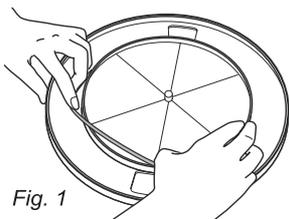

Fig. 1
1. Place the rubber driving belt over the bottom of the platter (Fig. 1).